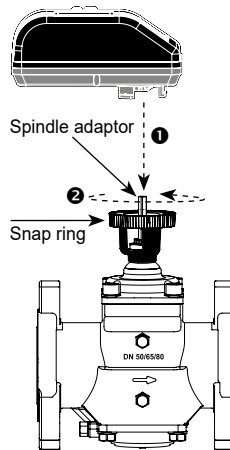

Figure 2
It is recommended to grease the O-ring on the spindle adaptor with silicone grease before placing the spindle adaptor on the valve spindle. ① Then place the actuator on the spindle adaptor and place the three actuator "legs" into the three holes in the mounting bracket (figure 2 and 3). Make sure that the snap ring is clicked onto the mounting bracket, so that the snap ring is locked at the top of the mounting bracket, but still able to rotate. ② Then finger-turn the snap ring counter clockwise (upside view) approximately 1/6 of a turn until its stop points touch the actuator "legs" and the mounting is lock with a (small) click. Do not use additional tools.